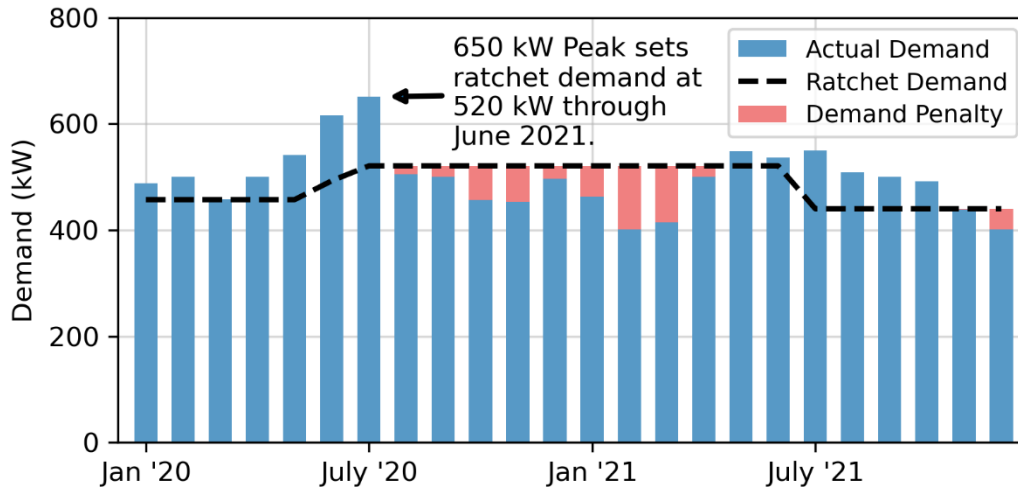

Figure 7: Ratchet clauses set the minimum billed demand for the next 11-month period.
will be the larger of (1) the current month's demand or (2) some percentage, usually 70%–80%, of the peak demand from the past 11 months. Figure 7 illustrates how these clauses affect the billed demand on your monthly bills. Note how the facility is penalized for the demand spike in July 2020 for the next 9 months. One way to spot a ratchet clause is a billed demand reading that is the same on multiple bills after your highest demand month.